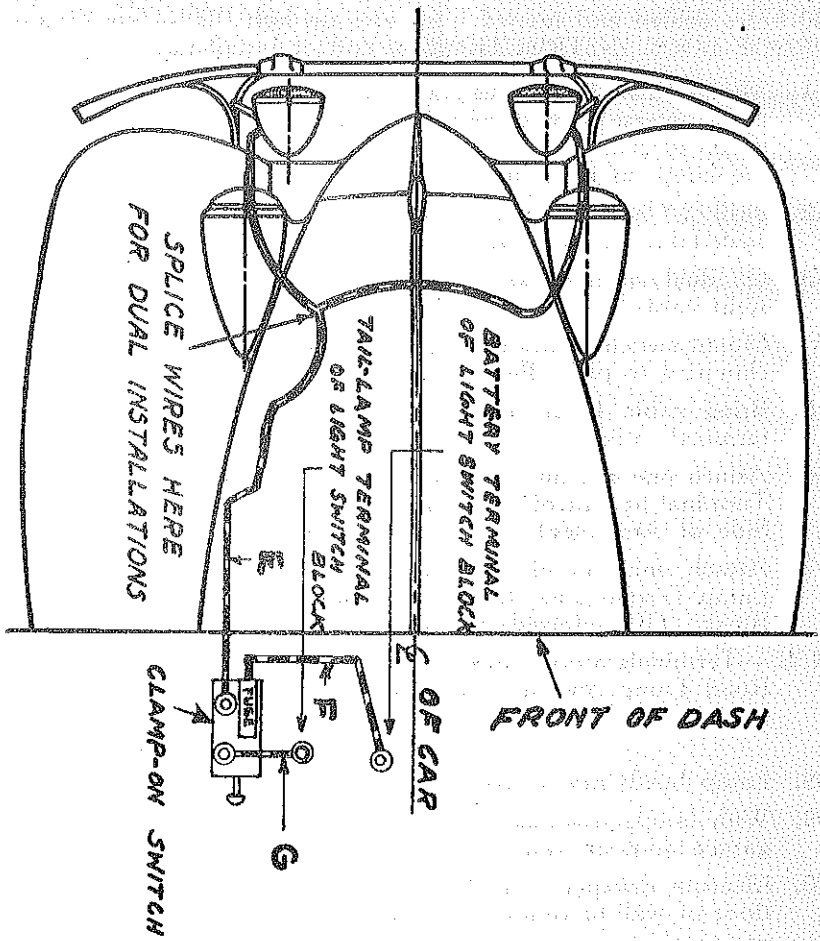

Figure 2
3. On dual installations, run cable from lamp on right side across to cable from left lamp. Cut right cable and splice to left cable as indicated in Figure 2.
5. Bring cable from left lamp (See "E" in figure 2) up to Road Lamp Switch and attach to terminal indicated.
6. Attach one end of short wire furnished with each Road Lamp (See "F" in figure 2) to Battery Terminal at end of Fuse Block on Road Lamp Switch and connect with Battery Terminal (Live Side of Ammeter) on Light Switch Block.
7. Attach one end of short wire furnished with each Road Lamp (See "G" in figure 2) to Tail Lamp Terminal on Road Lamp Switch and connect with Tail Lamp Terminal on Light Switch Block. (If preferred this wire can be spliced into tail lamp wire.)